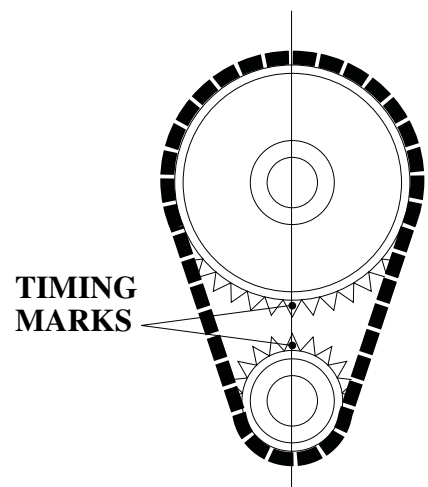

Figure 2- Timing Chain Sprocket Alignment
13. Rotate engine until timing marks are aligned as shown in Figure 2.
Install camshaft with timing marks lined up as recommended by factory specifications. See Figure 2.
After the cam is installed and timed correctly (see Figure 2), it will be necessary to check each pushrod for correct lifter preload.